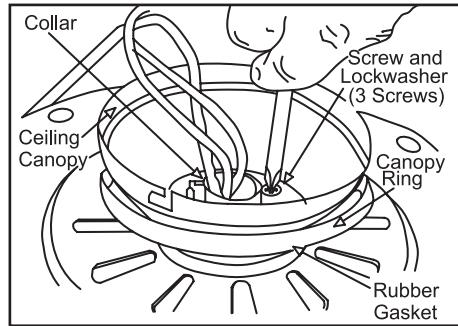

Figure 10
- Place the rubber gasket over the remaining three screws, route the wires exiting the top of the fan motor through the canopy ring (make sure the slot openings are on top), then proceed to place the ceiling canopy over the collar at the top of the motor (Figure 10).
- Align the mounting holes with the holes in the motor and fasten, using the three screws and lockwashers removed in step 4 (Figure 10).